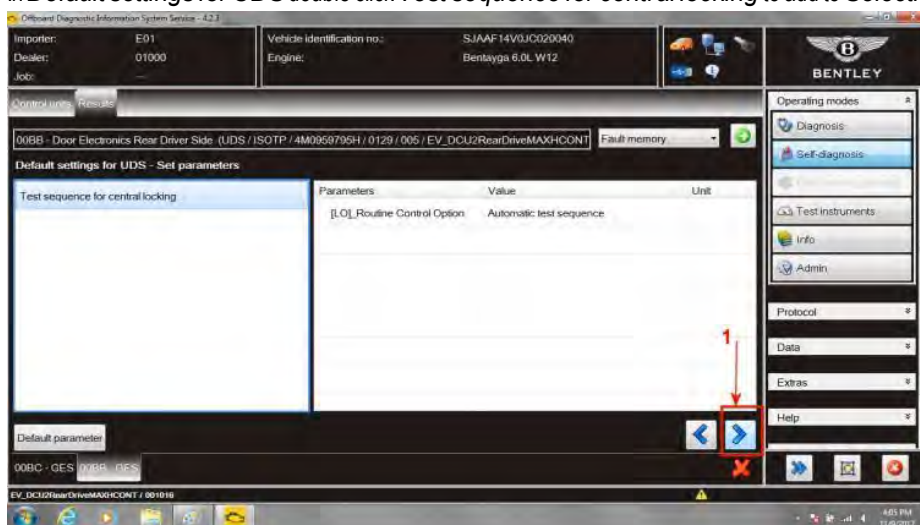

Figure 10
20. Select forward arrow (1) at *Default settings for UDS – Set parameters* screen (see Figure 10)